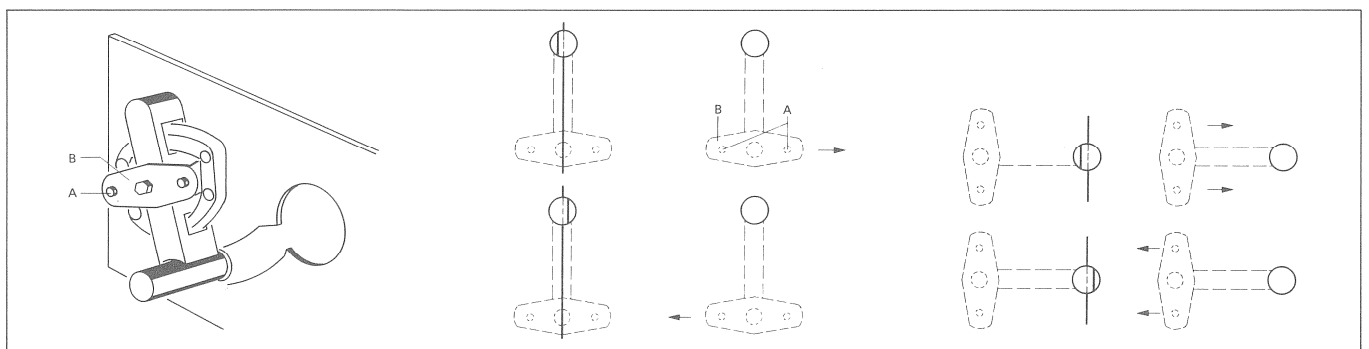

Fig. 4.7
-> Fig. 4.7
- Loosen two screws [A] sufficiently so that the bearing plates can be shifted. (Fig. 4.7)
- Correct the position of the bearing plate according to Fig. 4.7